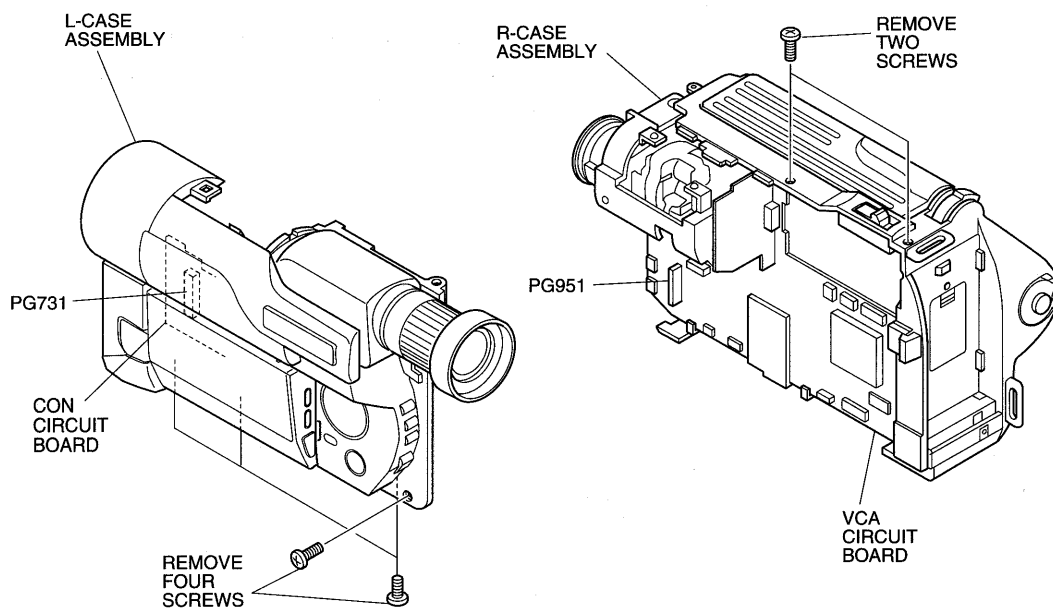

Fig. 2-4-1 [Except for TYPE 660, 368, 360]
2.4 L-Case Assembly, R-Case Assembly (Figs. 2-4-1, 2-4-2)